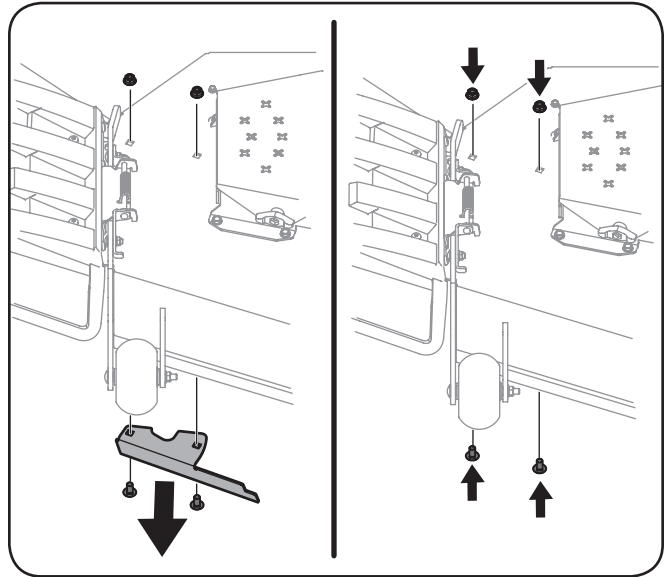

Figure 1-3
4. Remove the chute deflector baffle from the underside of the deck by removing the two carriage bolts and flange lock nuts that secure it to the deck. See Figure 1-3.
5. When the baffle is removed, re-install the two carriage bolts and flange lock nuts into the deck. See Figure 1-3.